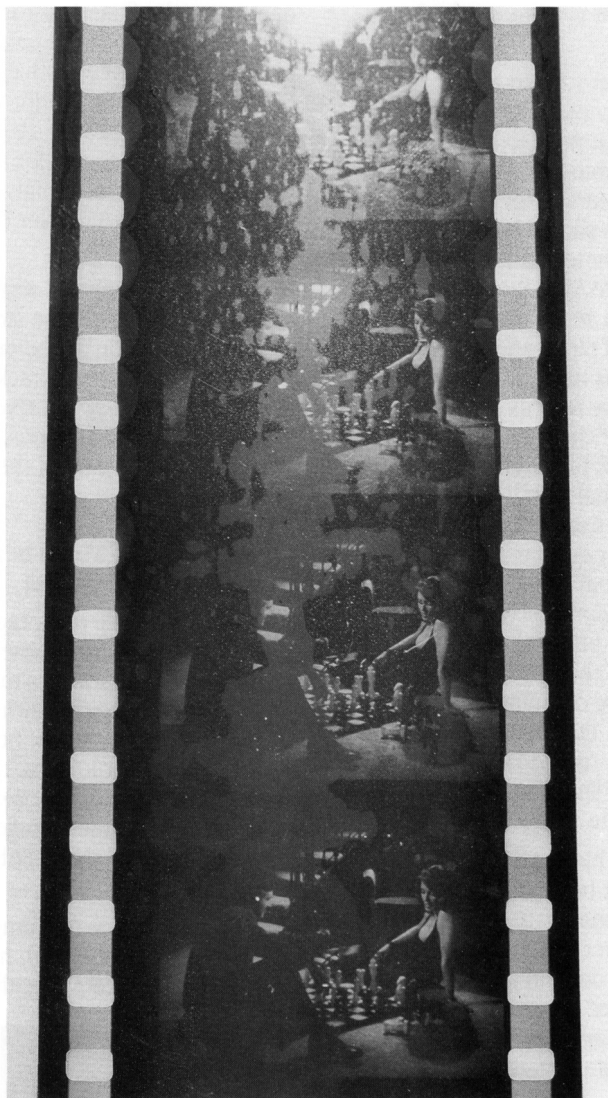

Figure 13
In addition to protecting film against the more obvious dangers, you must guard it against high relative humidities (RH) which accelerate the fading of color dyes, damage the gelatin, and promote the growth of mold, as well as the decomposition of safety-acetate base. High RH also speeds shrinkage, doubling the permanent shrinkage in some films when it goes from 60 to 90 percent for extended periods. High RH can also cause *ferrotyping* (**Figure 13**), the formation of glossy marks on the emulsion, or even sticking when the film emulsion is wound in contact with the base.